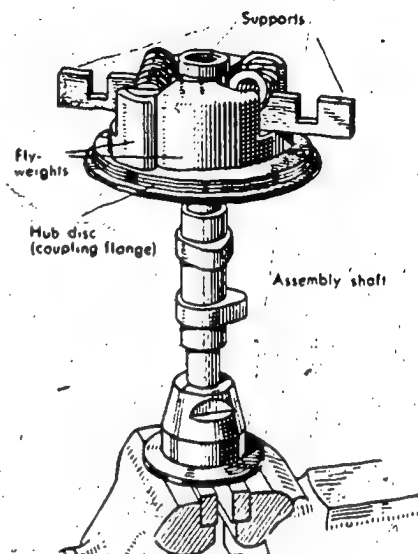

Fig 9 Fitting the springs
3. Remove drive flange again and locate springs in flyweight pivot pins of coupling flange. Fix support of EFEP 131 assembly tool under the free end of each spring so that the latter are raised approximately 5 mm above the flyweights and coil ends are turned downwards (Fig. 9). The application of Ft 1 v 5 grease to parts is recommended to help keep them sticking together.